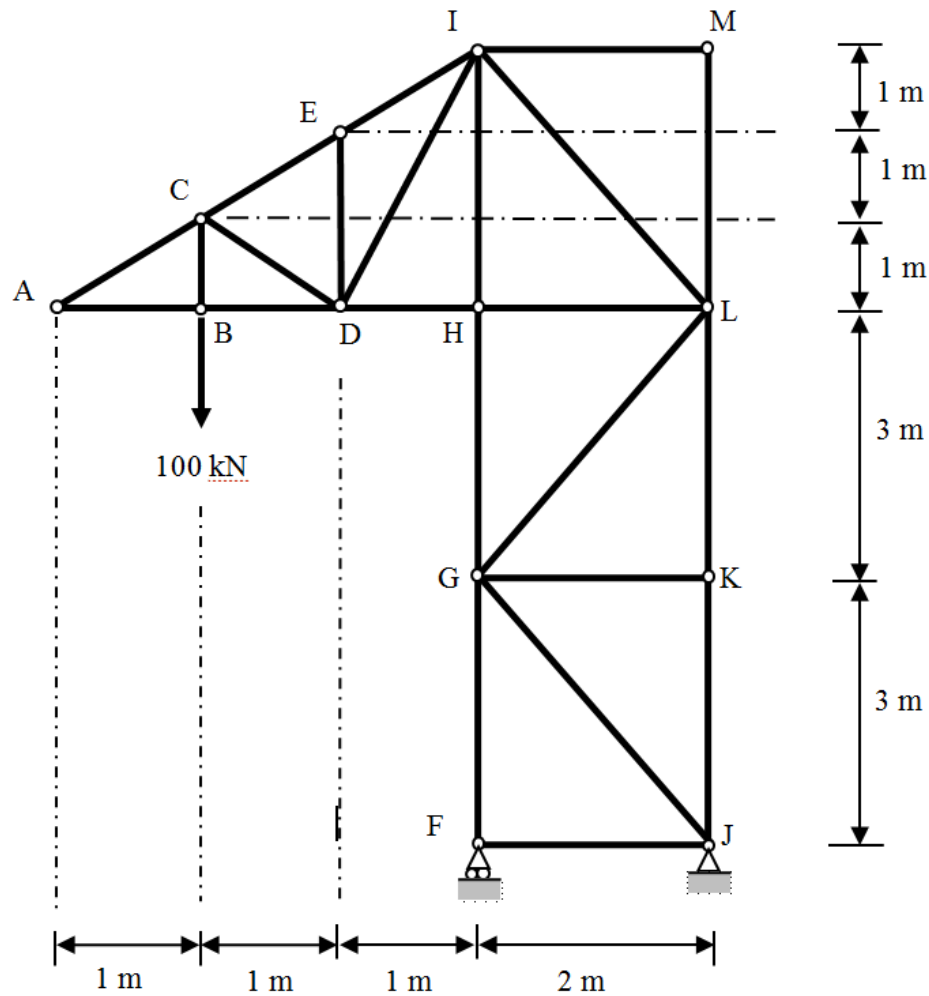

Figure 3/Rajah 3
3. [a] **Figure 3** shows a plane truss used as a gantry for a crane of capacity 100 kN. Check for the statical determinacy of the truss. Support F is roller and support J is pinned. All member connections are pinned. Find the reactions at both supports and identify any zero force members, if any. Determine forces in member EI, DI and DH by using section method and members FG, JK and FJ by using joint method. Classify whether they are in tension or compression.
- [b] If two members *MI* and *ML* of the truss shown in **Figure 3** are removed, what will happen to the overall stability of the truss? Any changes of the forces in members *EI*, *DI* and *DH*?